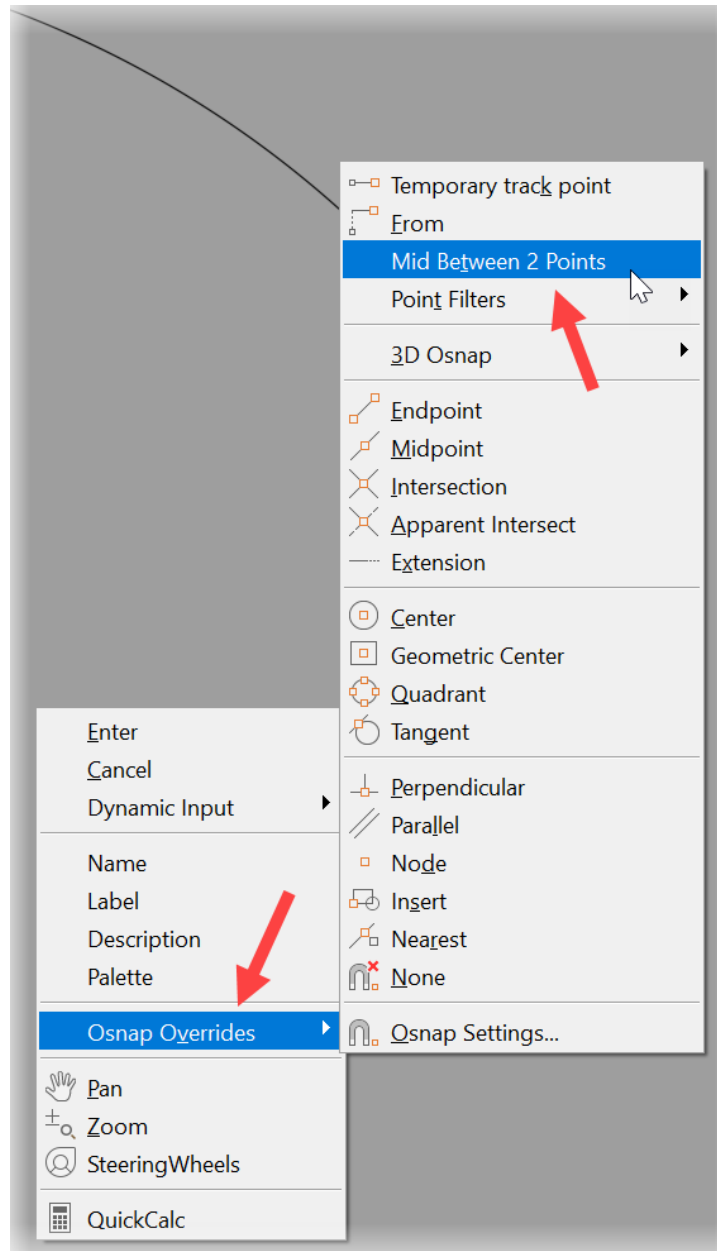

Figure 11.11: The Osnap Overrides shortcut menu
4. You will be prompted for the base point of the reflection line, and this is where you will need to use your object snaps. Right-click to bring up the shortcut menu. Select **Osnap Overrides**. It will display the **Osnap Overrides** menu, as shown in *Figure 11.11*.